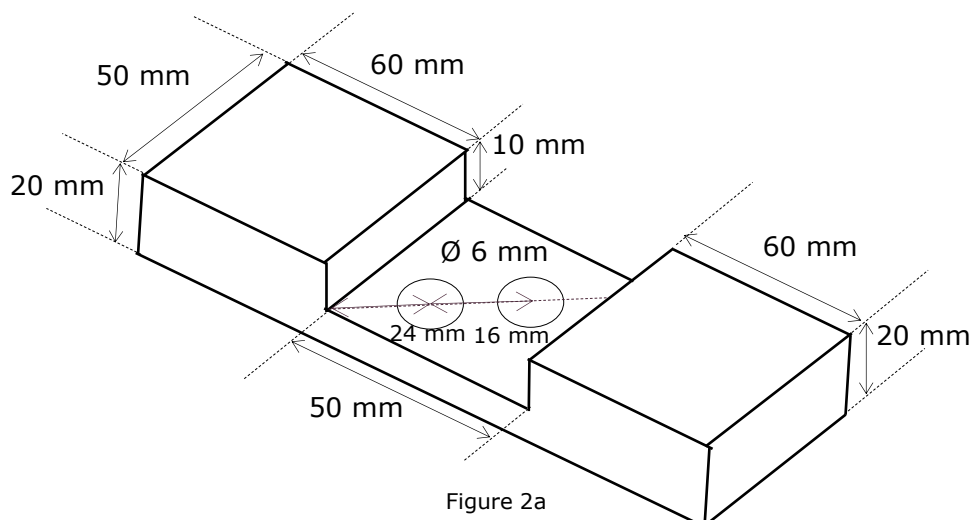
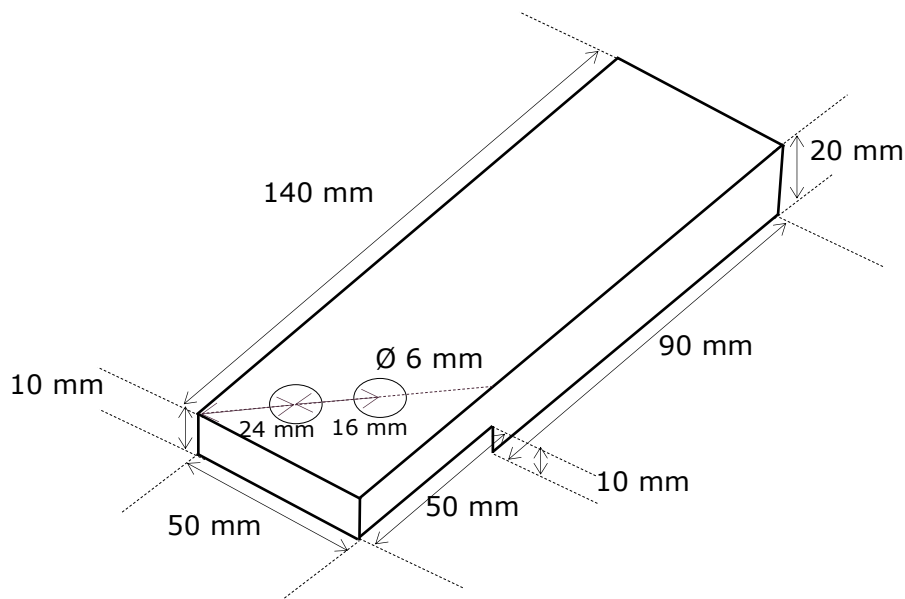

Figure 2a
Figure 2b
- Cut the extra material as in Figure 2a and Figure 2b.